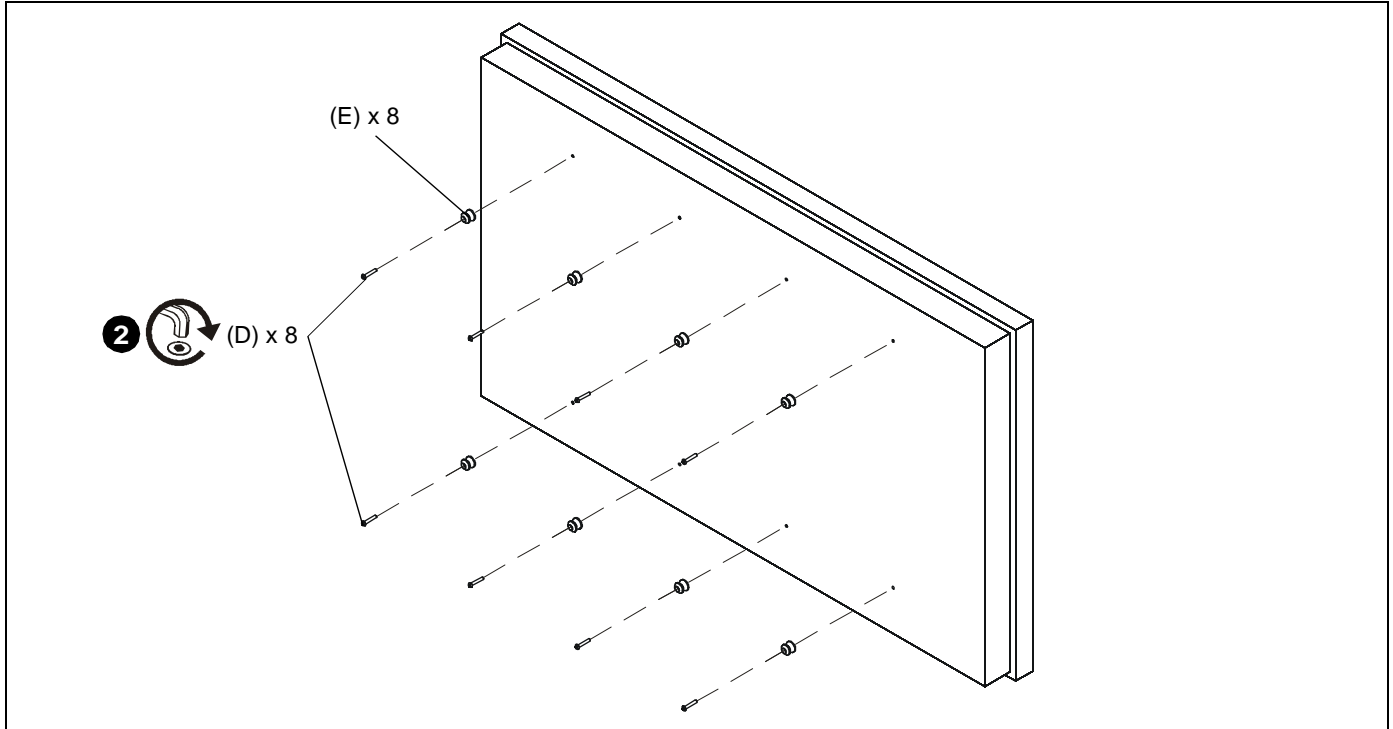

Figure 5
2. Install eight mounting buttons (E) onto display using eight M8 x 45 button head cap screws (D). (See Figure 5)